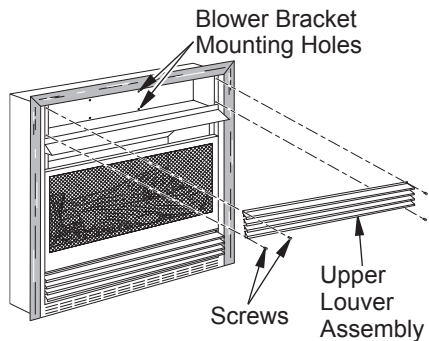
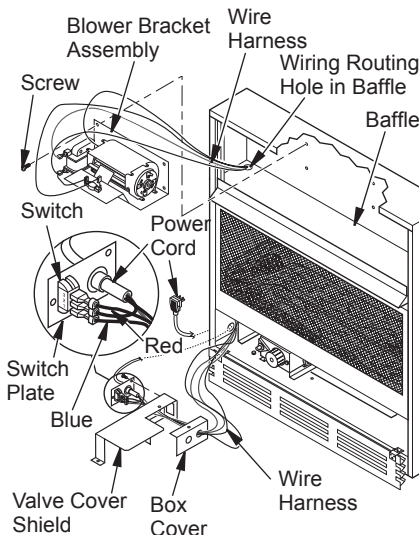
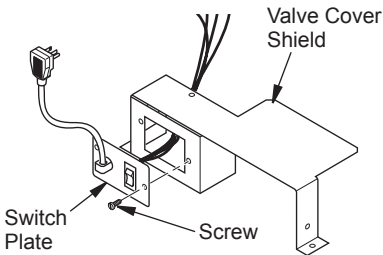

Figure 16 - Removing Upper Louver Assembly
Figure 18 - Installing Blower Bracket Assembly
Figure 19 - Installing Switch Plate to Valve Cover Shield
- Remove 4 screws from louver assembly (see Figure 16). Save these screws.
3. Note the wire locations on back of AUTO/OFF/ON switch. The terminals on back of switch are numbered 1, 2 and 3. Carefully remove red wire from terminal 1 and blue wire from terminal 3. Black wire can remain on middle terminal 2 (see Figure 18).
5. In top of the heater cabinet, locate the four mounting holes on the outer casing. Align these four holes with those on the blower bracket assembly. Attach blower bracket assembly to the outer casing with 4 #10 screws provided (see Figure 18).
6. Route the wire harness through the hole in left side of baffle. Pull wire harness through lower opening above where the valve shield was removed. (see Figure 18).
7. Insert the 4 wire harness into one of the round holes in the rear of the valve cover shield and through the rectangular hole in the front of shield (see Figure 18).
9. Install the switch plate on the valve cover shield with 2 #10 screws provided (see Figure 19). Reinstall the valve cover shield. Route power cord out of the cabinet by inserting it through the bushing on the outer casing (see Figure 18, page 14). Plug fan kit into 120-Volt grounded power supply and test operation. **Note:** When switch is in the AUTO position, the fan will start after the heater has run for a few moments. The fan will continue to run for several moments after the heater has been turned off. When switch is in the ON position, the fan will run until turned to OFF. Reinstall upper louver assembly and hood if previously removed, (see Figure 16, page 13). Close lower louver door.
8. Reinstall upper louver assembly and hood if previously removed, (see Figure 16, page 13). Close lower louver door.